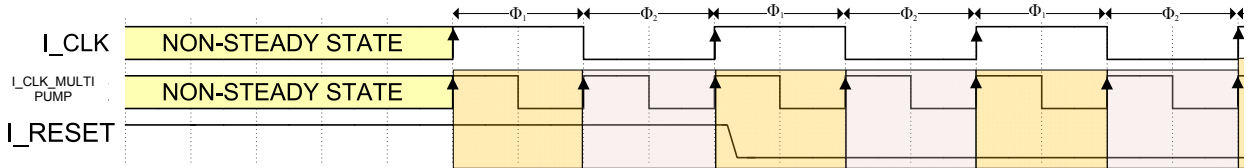

Figure 1. Clock Relations
- A register clock, supplied to port **I_CLK_MULTIPUMP** that drives the internal register file block RAM and is twice as fast as the master clock. See Figure 1 for clock waveforms.
The timing relation between the clocks must be very precise (clocks must be rising edge aligned) when in steady state as shown in *Figure 1. Clock Relations*.